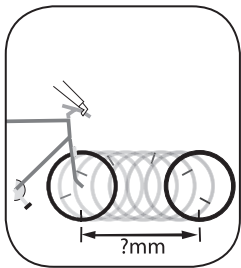

Figure 19- Measuring rollout for wheel size
1. With the valve stem of the front wheel directly over the floor (Figure 19), sit on the bike.